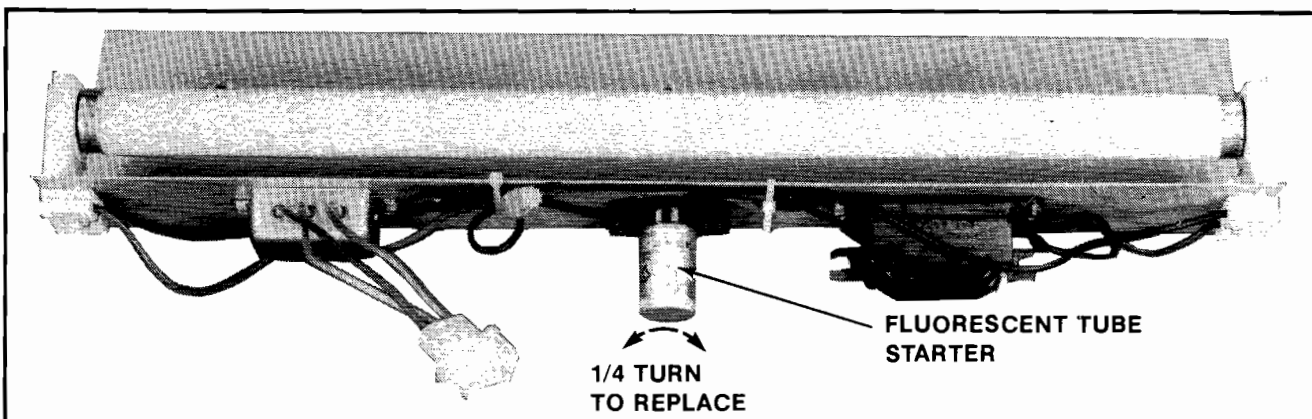

Figure 2-47 Replacing the Fluorescent Tube Starter - Upright
**WARNING: If you drop a fluorescent tube and it breaks, IT WILL IMplode! Shattered glass can fly six (6) feet or more from the implosion. Use care when replacing any fluorescent tube.**
- Replacing the fluorescent tube starter. See Figure 2-47.
- Replacing the black light tube starter. See Figure 2-47.